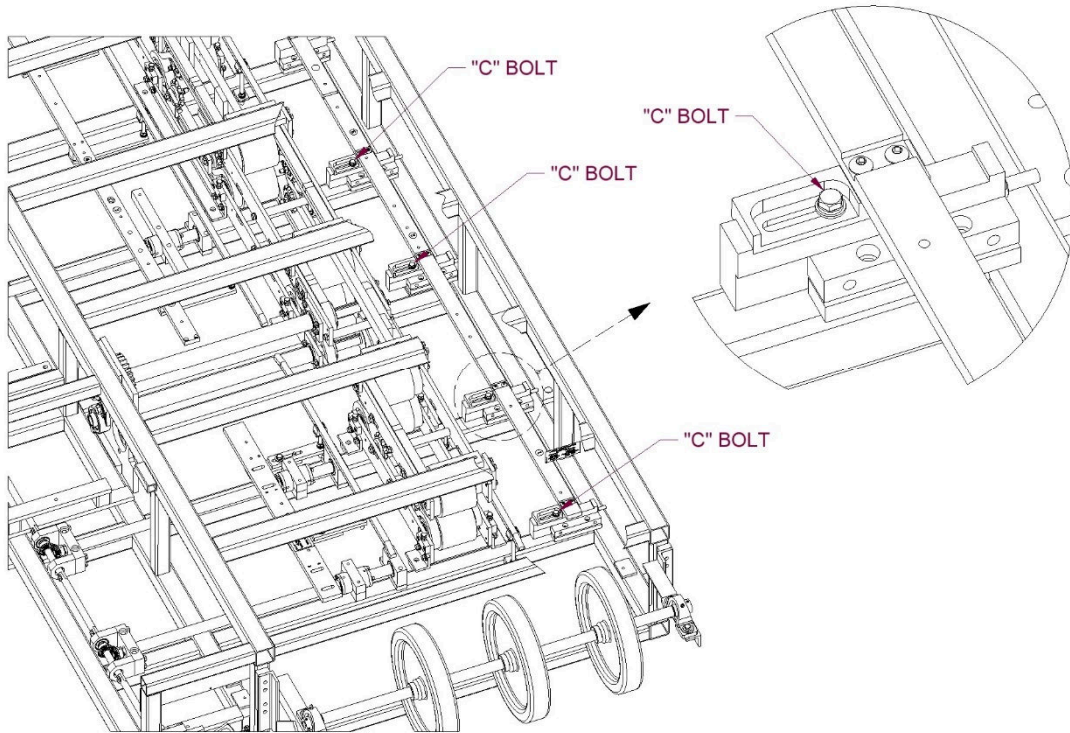

Figure 62: Right Side Fixed Mount Rail Bolts
5. Loosen bolt “C” on the first 4 Slide Block assemblies (Figure 62).
6. Once all 4 bolts are loose, slide the Right Side Fixed Mount Rail #1 to the correct position (Figure 63), either “inboard” or “outboard”. Make sure that it is fully in position and then tighten the “C” bolts (Figure 62).